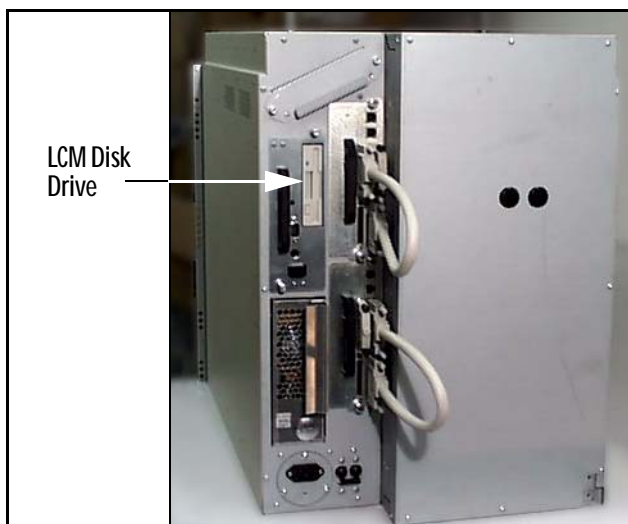

Figure 9-10 *Insert Disk 1 in the LCM disk drive.*
1. Insert Disk 1 in the LCM disk drive (Figure 9-10).